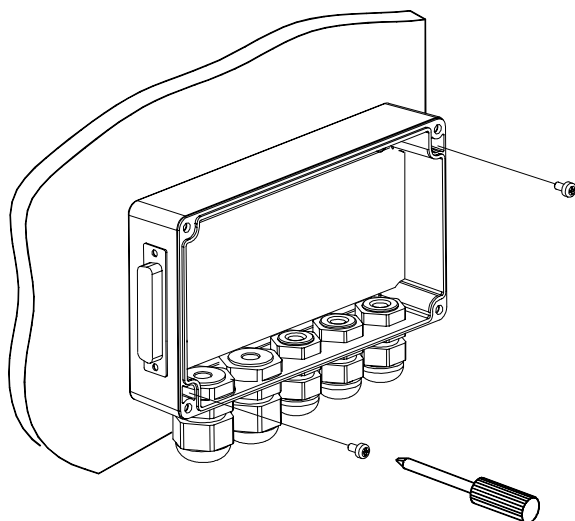

Figure 4 - Mounting C-BOX 4X0
C-BOX 4X0 can be installed to operate in different positions. The two screw holes inside the housing of the C-BOX 4X0 are for mechanical fixture (Figure 4).
- 2) Align the C-BOX 4X0 and insert two screws and screw them into the panel until tight (see Figure 4).